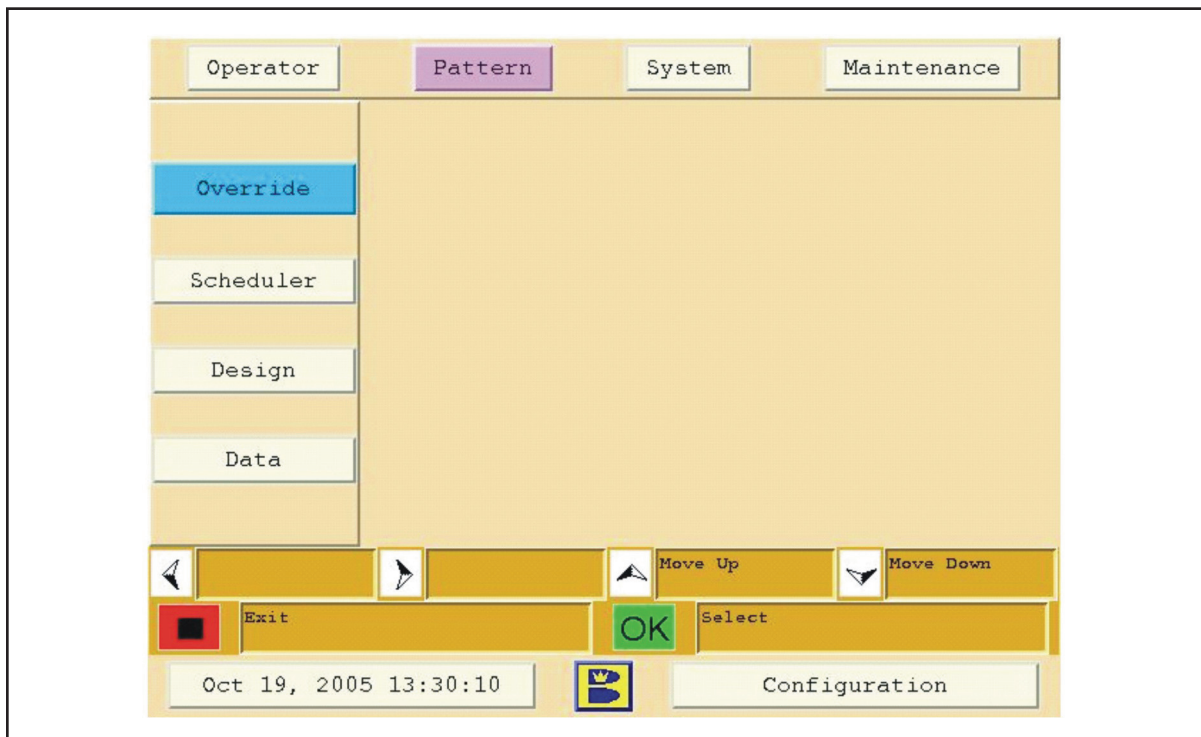

Figure 5-4. Pattern Screen
1. Press the “Exit” button until you reach the main screen for that section –Operator, Pattern, System, or Maintenance (the active area of the screen will be blank and only the left menu bar will be visible). Refer to Figure 5-4.
The pattern screen lets you select, change, design, or override a lane conditioning pattern. The Envoy comes pre-programmed with 10 conditioning patterns. You may use these patterns as your own, or use them as templates to create customized patterns – just find the pattern that’s closest to what you want and then adjust the zone lengths and oil volumes. You can return to the original default patterns at any time. Refer to Figure 5-4.